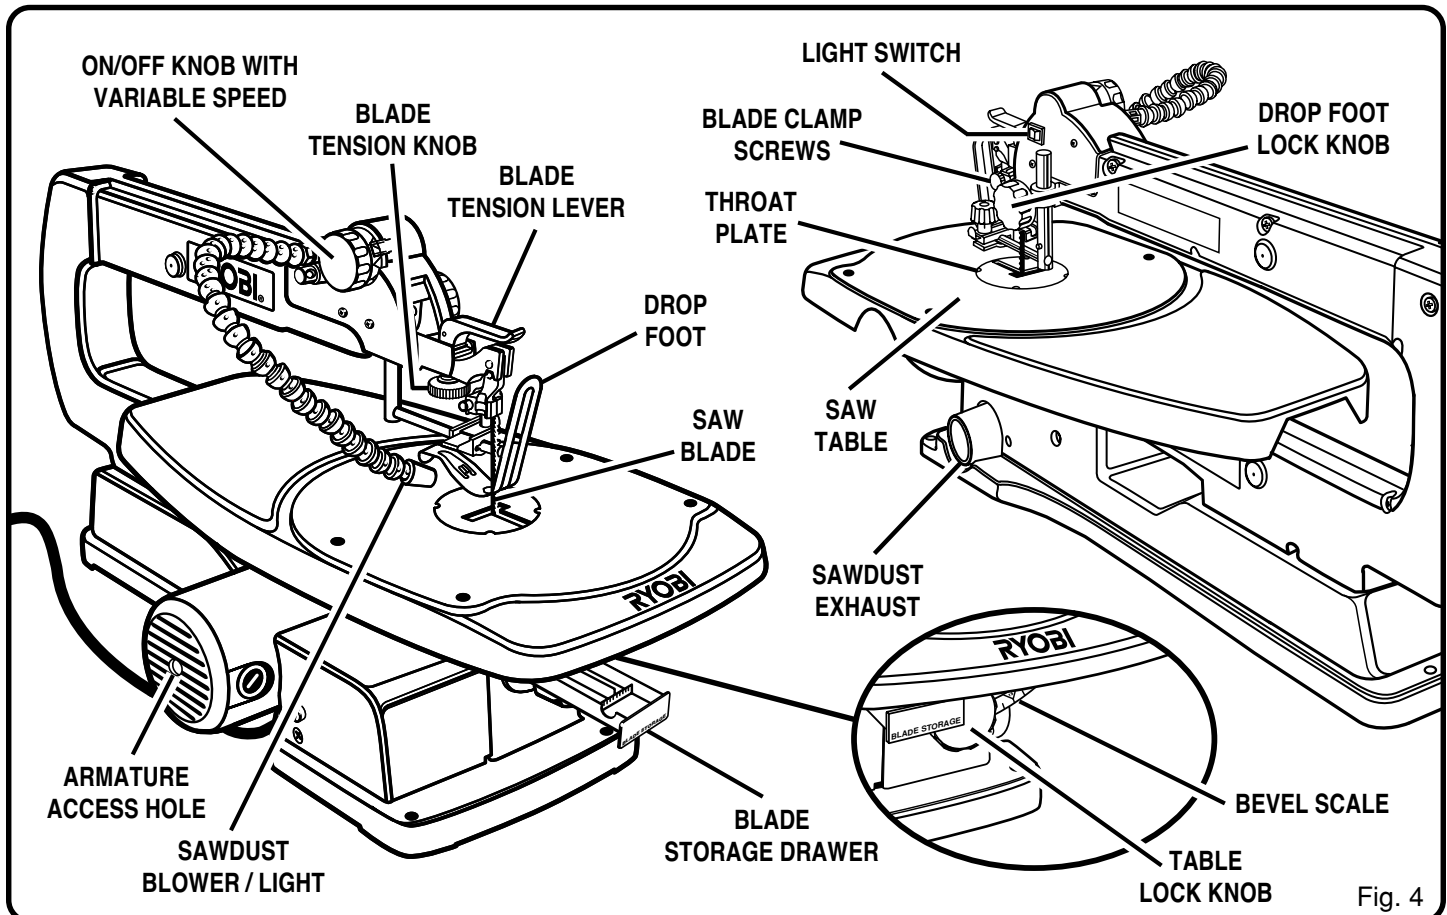

Fig. 4
Before attempting to use your saw, familiarize yourself with all the operating features and safety requirements of your Ryobi scroll saw. See Figure 4.
- Turn blade tension knob clockwise to decrease (or loosen) blade tension. See Figure 4.
- Turn blade tension knob counterclockwise to decrease (or loosen) blade tension. See Figure 4.